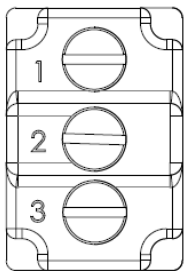

Figure 2
5. Note the notch position of the switch and mark the wires 1, 2, & 3 as shown in the diagram. (Ref. Figure 2)
7. Strip the insulation from the newly cut wires and crimp the supplied three (3) ring terminals to the wires.
16. If the gear retracts during step 15, remove power from the aircraft. Locate the wires to the back of the new gear switch and swap wire positions 1 and 3. (Ref. Figure 2 and Wiring Diagram)